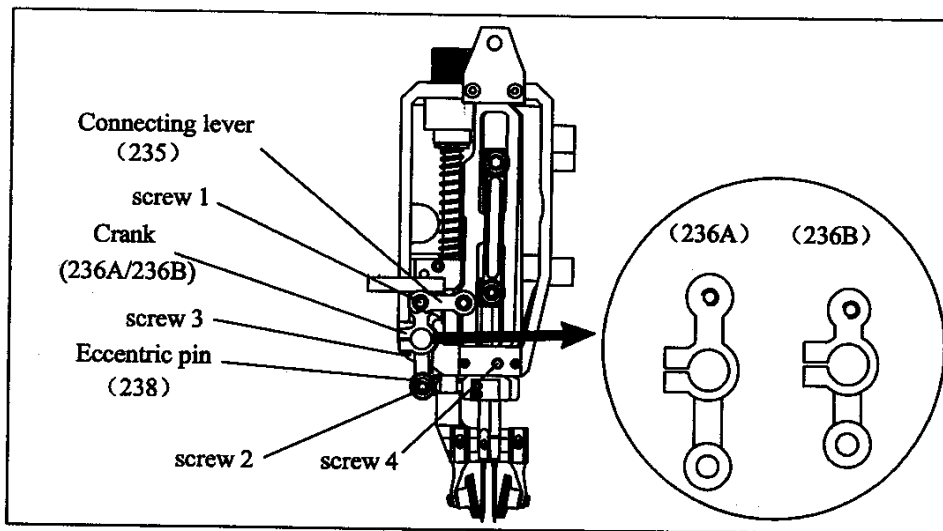

Fig 7
To replace the crank(236A/236B), proceed as follows(Fig 7)
- loosen the screw 3 (shown in Fig 7).
- Tighten the screw 4 (shown in Fig 7).
**Attention:** After setting the stitching seam, rotate the pulley (203) by hand at least 4 circles to see if the distance between two needles is always same. If not, loosen the screw 3 of the crank (236A/236B) and rotate the crank (236A/236B) a little angles in the clockwise direction or in the anti-clockwise direction until the distance between two needles is always same before and after two needles be intercrossed. (Fig 7)